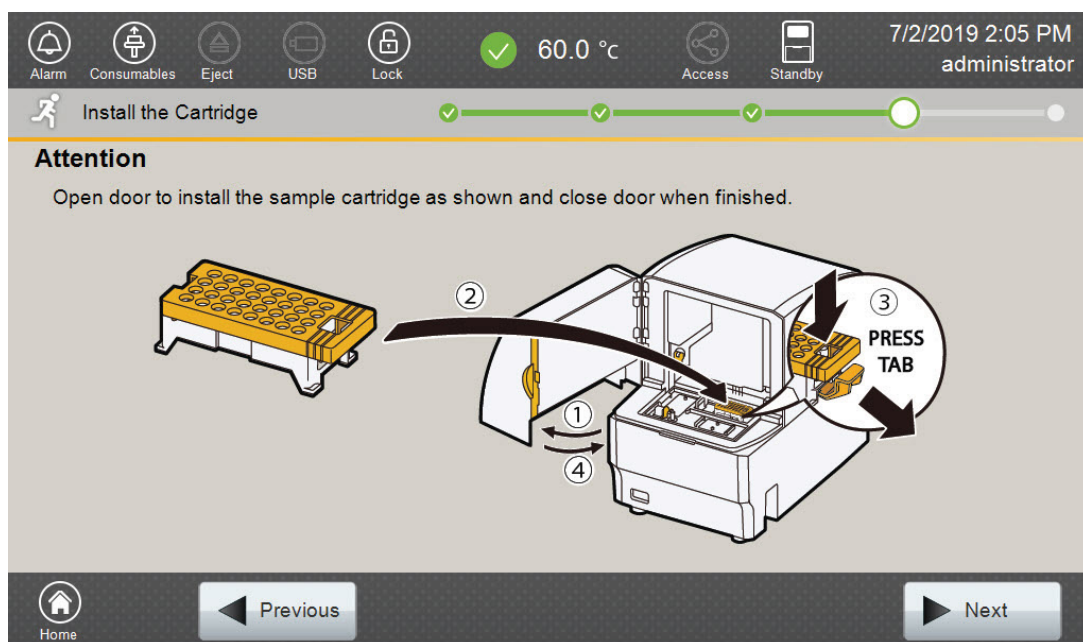

Figure 25. 'Install the Cartridge' screen.
2. Open the instrument door, then place the sample cartridge on the autosampler following the instructions displayed on the 'Install the Cartridge' screen (Figure 25). Press down on the yellow tab on the autosampler deck that locks the sample cartridge in place before placing sample cartridge into position. Release the tab to lock the sample cartridge in place on the autosampler deck.